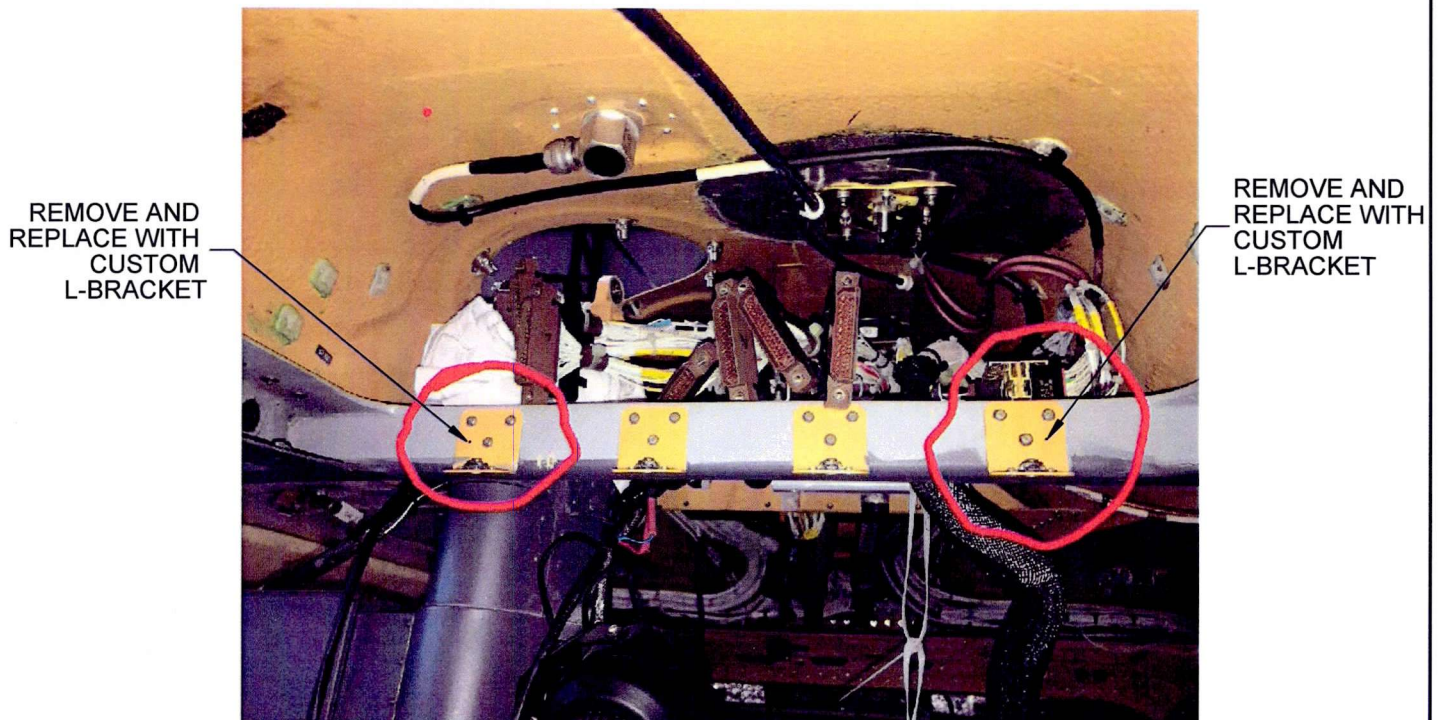

FIGURE 1: LOCATION OF REPLACEMENT L-BRACKET
It has come to Dart's attention that on some early model EC135, the presence of a 12VE CM Panel may prevent installation of the upper cutter fixed provisions as part of the DART EC135 647.7300 Series Cable Cutter Kits as intended. See Figure 1 of this DSI.
- 2.1 Remove the two interfering L-Brackets identified in Figure 1.